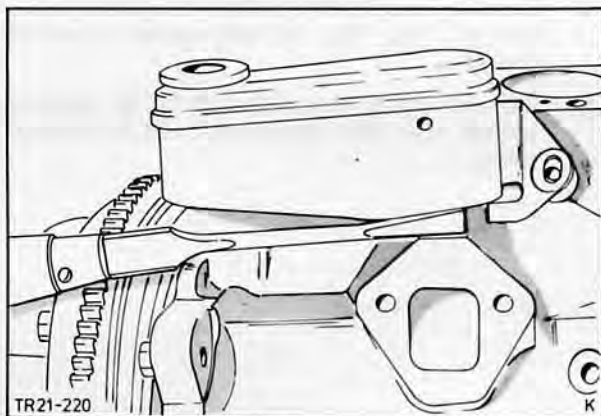

Fig. 35. Remove oil separator using a screwdriver
14. Withdraw bolt from oil separator. Prise oil separator out of engine block, using a screwdriver, Fig. 35.